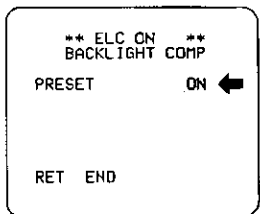

Fig. 58
- Move the cursor to the "PRESET" mode position and select the "ON" mode by using the Left Button (WHT BAL) or Right Button (GAIN UP). The preset mode menu is displayed on the monitor screen as shown in Fig. 58.